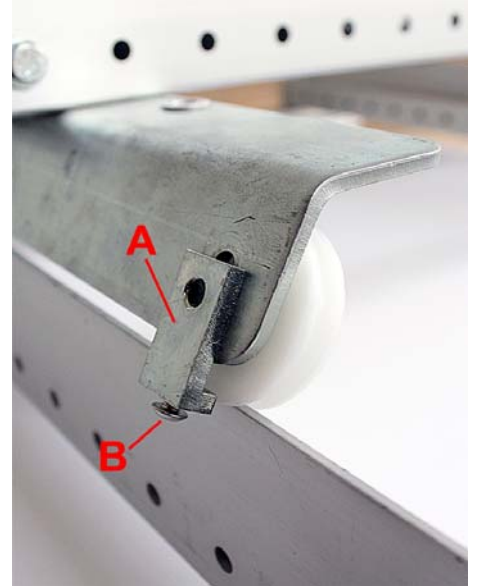

Fig.3
3. Replace the other outer wheel. Use the enclosed height leveler block (“A” on Fig. 3) instead of the original nut.
4. Set the adjusting screw (“B” on Fig. 3) to its outermost position and push the wheel mounting screw to the top of the slot. Tighten the bolt enough to hold the wheel, but allow adjustments.